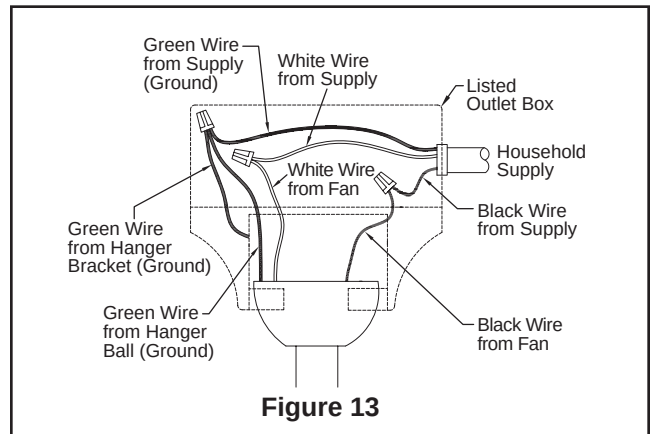

Figure 13
- ☐ 2. After connections have been made, turn leads upward and carefully push leads into the outlet box, with the white and green leads to one side of the box and the black leads toward the other side. The wires should be spread apart with the grounded conductor and the equipment-grounding conductor on one side of the outlet box and the ungrounded conductor on the other side of the outlet box. (Figure 13)